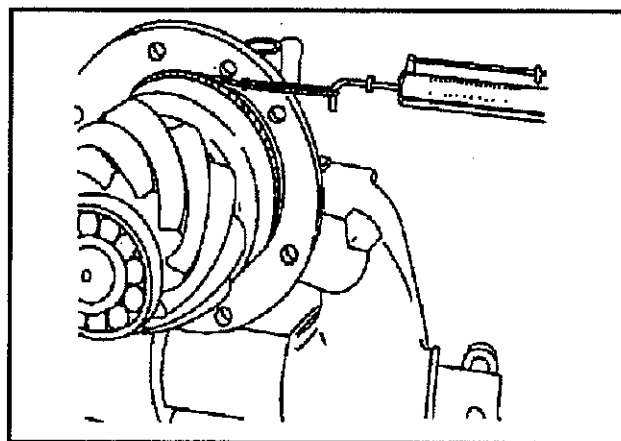

Figure 24—Measure Preload
12. Torque pinion nut to 900 to 1,200 foot-pounds, 1,220 to 1627 N•m. (See Figure 24—Measure Preload.)
15. Read scale during fourth revolution. Scale reading must be between 3 to 9 pounds (1.4 to 4.1 kilograms). (See Figure 24—Measure preload.)